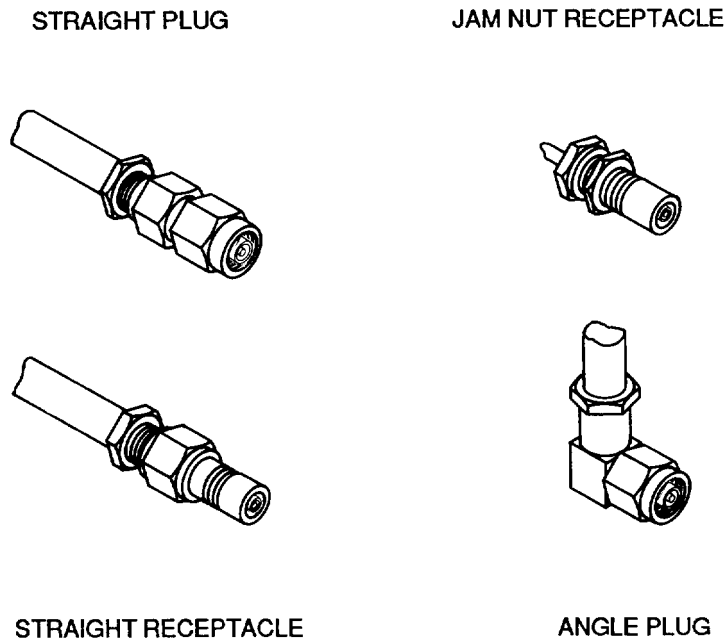

Figure 20. Typical SMC Series Connectors
53. **Series SMC Connectors.** These connectors are subminiature, threaded coupling connectors approximately the same size as the SMA series. These connectors operate to 10,000 MHz (Figure 20).